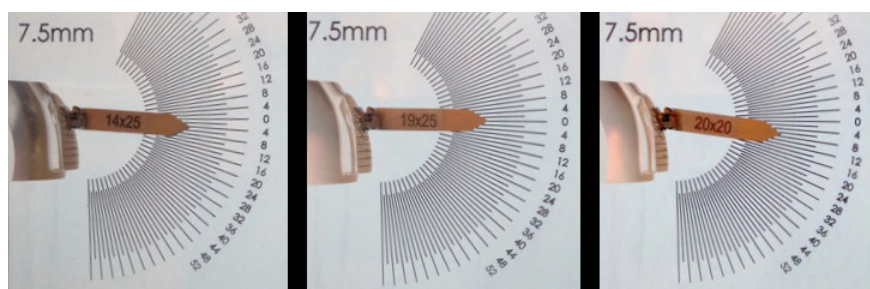

Figure 9: Even with extreme SAP positions, it is unlikely to develop excessive torsion within the slot, with common arch wire progressions.
- **Secure Force Application:** Even with very large SAP10 progressions, **application of excessive torsion through incremental increases in wire size is unlikely** using commonly employed AW sequences (Figure 9).